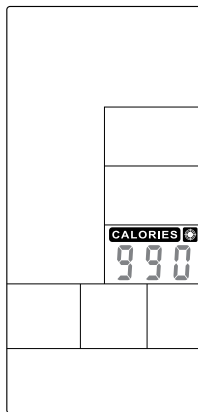

Figure 43
- ⑧ Press any PROGRAM key then perform the program accordingly.
- ① In Standby mode, press Target Calories key and **CALORIES** will light up, along with a long sound for 1s.
- ② CALORIES value is flashing, press UP and DOWN to adjust (Figure 43). Press ENTER to confirm meanwhile buzzer beeps 1s and **CALORIES**  lasting lighting up